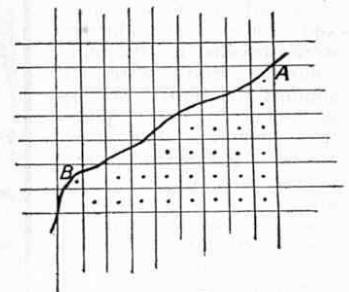

Fig. 3. Enlargement of AB in Fig. 1
(1) Graphical. Either by drawing the lines in on the paper or by placing on top of the paper a transparent sheet so ruled, we cover the figure with a multitude of tiny equal squares, the area of each square being some definite fraction of the scale in which the result is required, and then count up the squares (see Fig. 1). No error need result so long as we are dealing in whole squares, but when we come to the outer edges of the figure we shall find some of the squares incomplete, because cut off by the boundary line of the area (Fig. 3). Here each partial square must be considered on its own merits, and a search made round the edge of the figure for a second partial square of such a shape that the portion inside the area of the second square, added to the portion inside the area of the first square, will together equal a complete square, and so be included in our computation